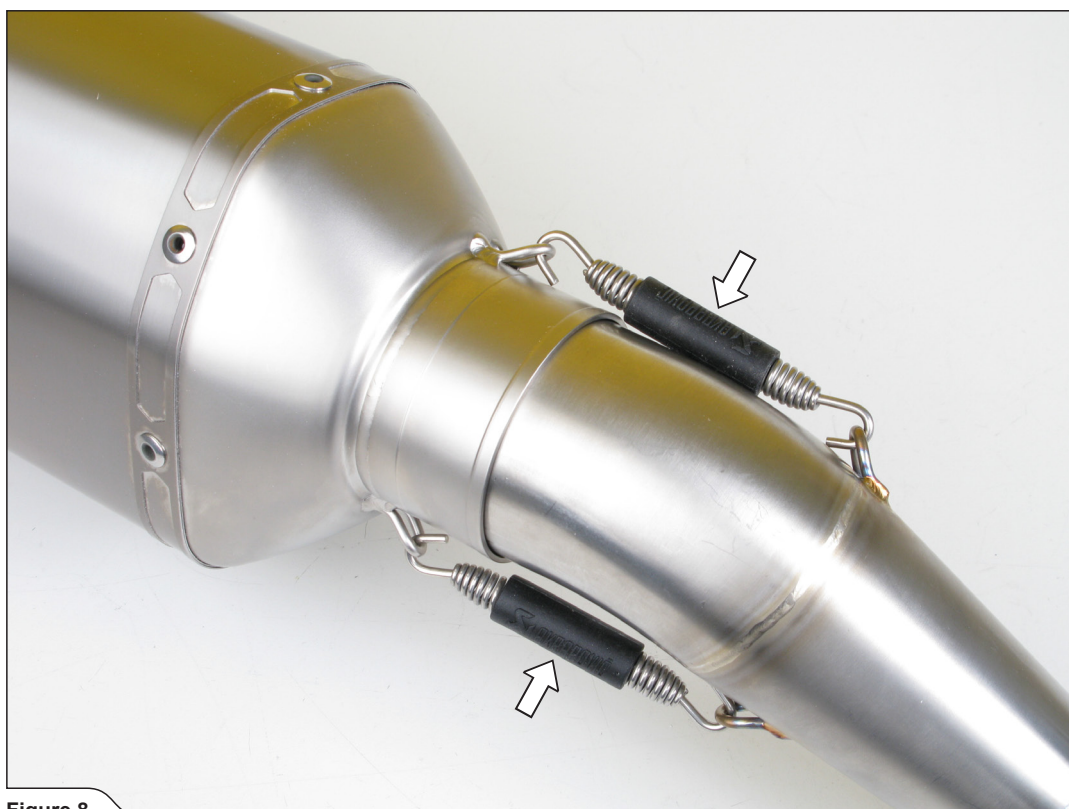

Figure 8
- ! **WARNING: make sure, that springs pull the link pipes all the way into the mufflers' sleeves – use rubber mallet if necessary to tap the connections into place (Figure 8)!**